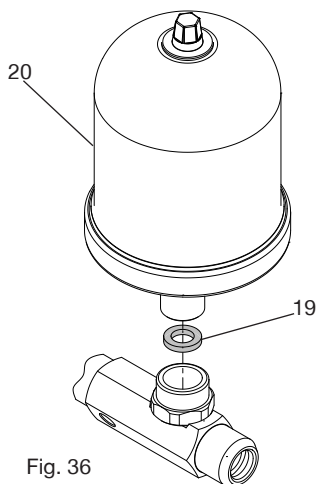

Fig. 36
- Remove rubber washer from manifold body (Fig. 36).